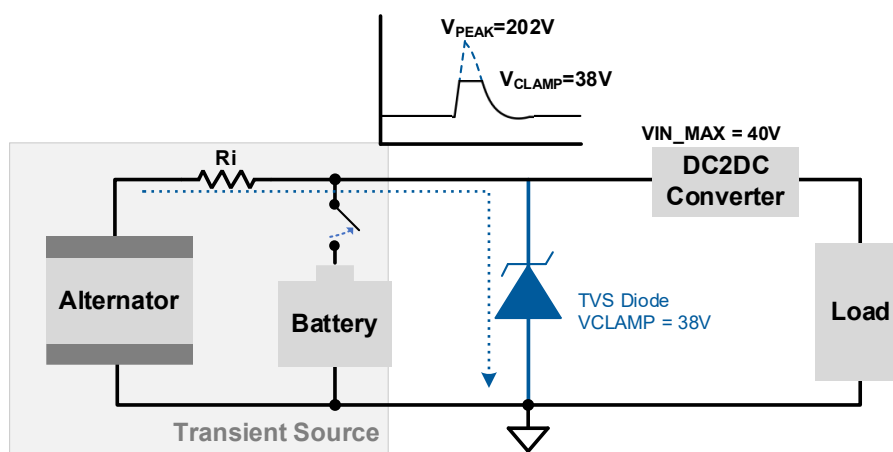

Figure 5. Clamp the load dump pulse to a safe operation voltage
To extend the protection capability of the AP74502Q, designers can add a Zener diode to the positive input pin (IN) along with a series current-limiting resistor (RP), as shown in Figure 5. During a severe load dump event, if the input voltage rises above +90V, the Zener diode clamps the voltage at this level while RP restricts the current flowing through the diode.
Another effective strategy for mitigating load dump surges is to clamp the transient voltage to a level that the DC-DC converter can safely tolerate. This is typically achieved using a transient voltage suppressor (TVS) diode, as shown in Figure 5. The TVS diode absorbs the surge energy and limits the voltage spike to a predefined safe level.